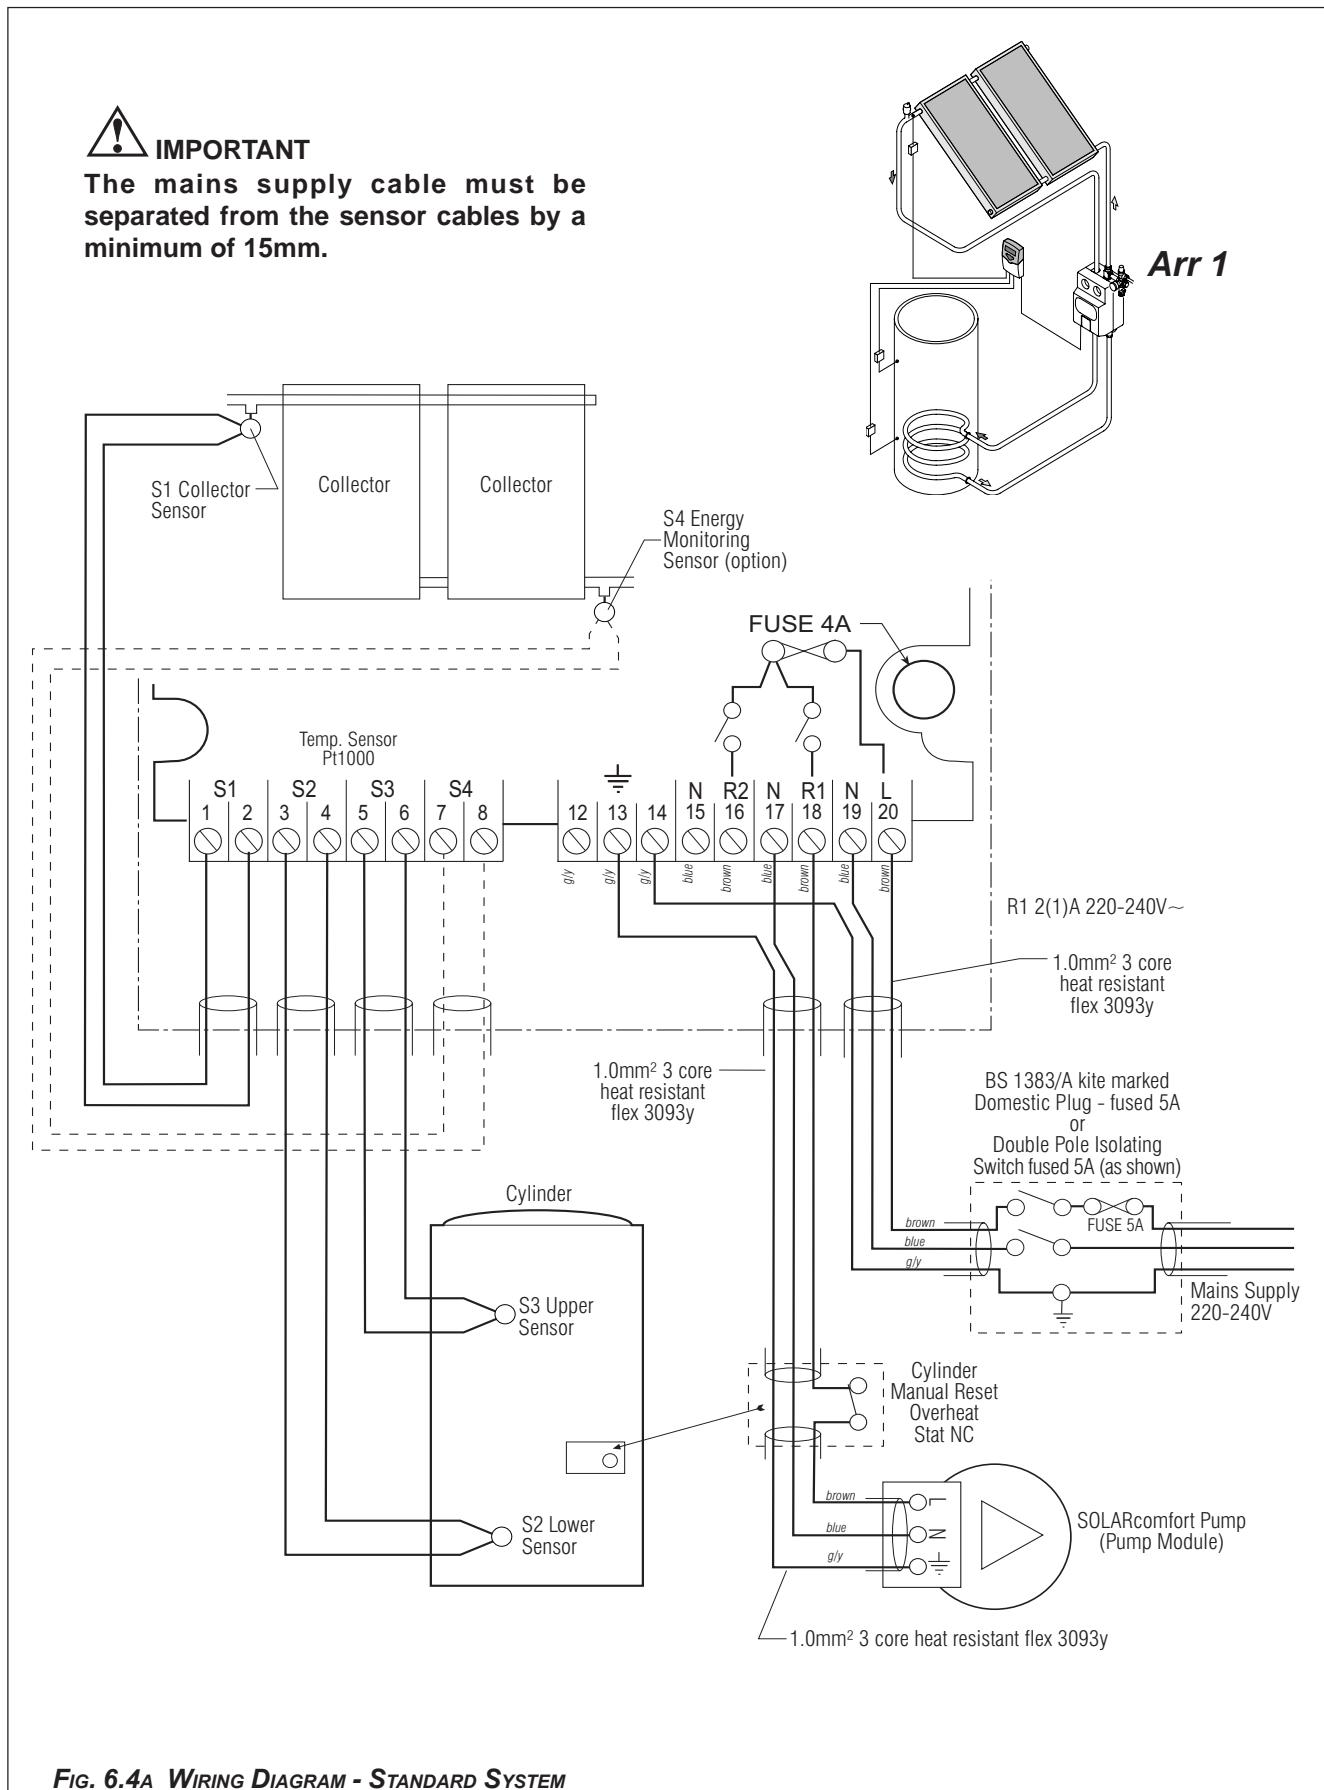

FIG. 6.4A WIRING DIAGRAM - STANDARD SYSTEM
2. The manual reset overheat thermostat must be wired as shown on wiring diagram Fig. 6.4A.
Arr 1 is used when only one cylinder heat exchanger coil is controlled by the AST 100 Controller, i.e. solar system is circulated through the coil by the solar pump controlled by R1 - see wiring diagram fig. 6.4A.
The lower solar coil is controlled by the AST 100 Controller, i.e. solar system is circulated through the lower coil by the solar pump controlled by R1 - see wiring diagram fig. 6.4A.